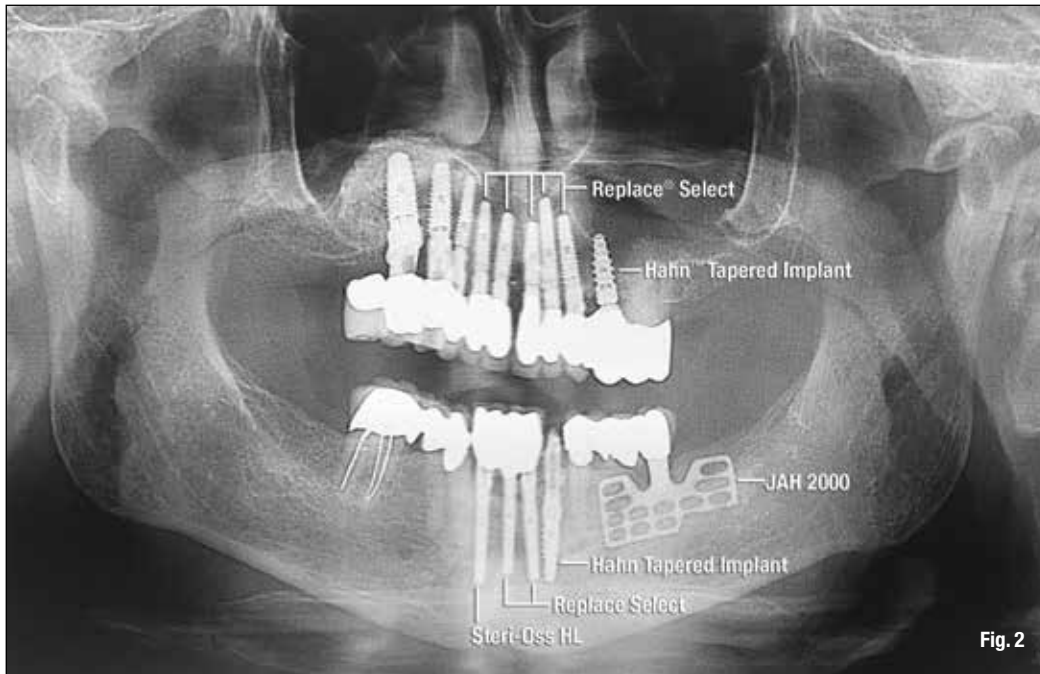

Fig. 2
• **Hahn Tapered Implant (Fig. 6):** Like several of the implants I've placed for this patient, the two Hahn Tapered Implants shown in the panoramic radiograph (Fig. 2) were placed immediately following extractions. The patient is active socially and has always wanted an immediate temporary after having